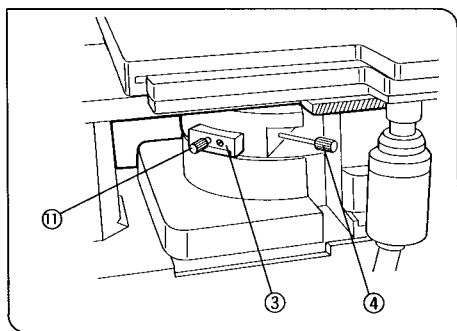

Fig. 95
3. Insert the transmitted light differential interference contrast slider (U-DICT) ③ with the analyzer facing downwards and engage it into the light path. Turn the clamping knob ④ to clamp. (Fig. 95)
⊙ When using the IX-AN analyzer ⑤, insert it into the slider slot ⑥ under the revolving nosepiece. Insert as far as the click-stop. In this case, the analyzer U-ANT is not used. (Figs. 95, 96)
8. Turn the focusing ring ⑩ (the knurled ring in case of the focusing telescope) and bring the objective exit pupil into focus.
9. When the prism control knob ⑪ of the transmitted light differential interference contrast slider (U-DICT) is rotated all the way in the clockwise direction, the black fringe will be sandwiched between rainbow colored fringes and should go diagonally through the center of the field. (Figs. 95, 99)